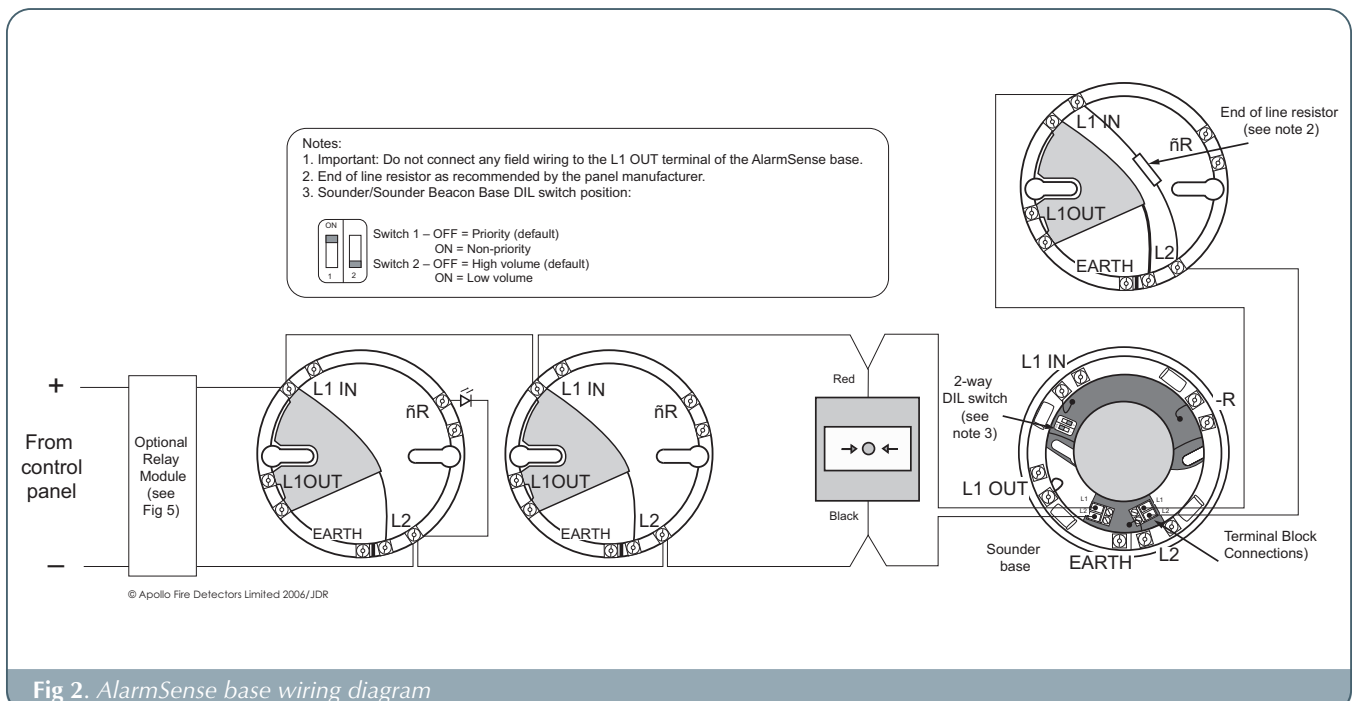

Fig 2. AlarmSense base wiring diagram
1. For wiring diagram please see Fig 2, page 7.